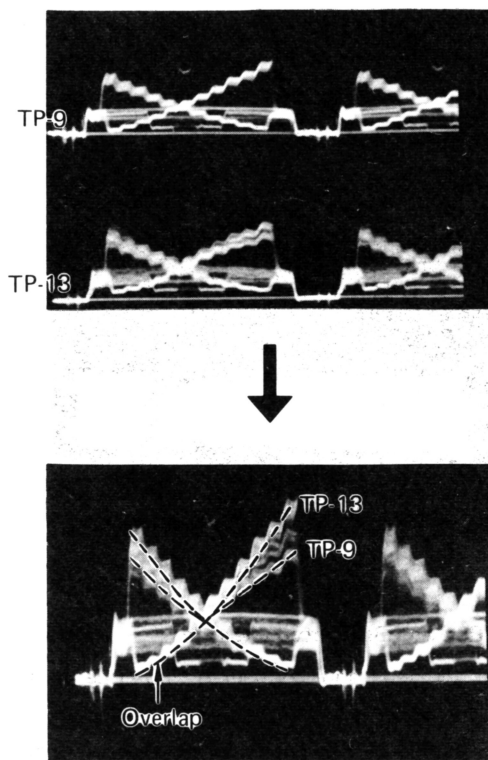

Fig. 4-25
3. Connect a dual-trace oscilloscope to TP-13 (R) and TP-9 (YL) and set oscilloscope for the ALT mode.
4. Use the vertical position and sensitivity controls of the oscilloscope to overlap the two waveforms as shown in Fig. 4-25.